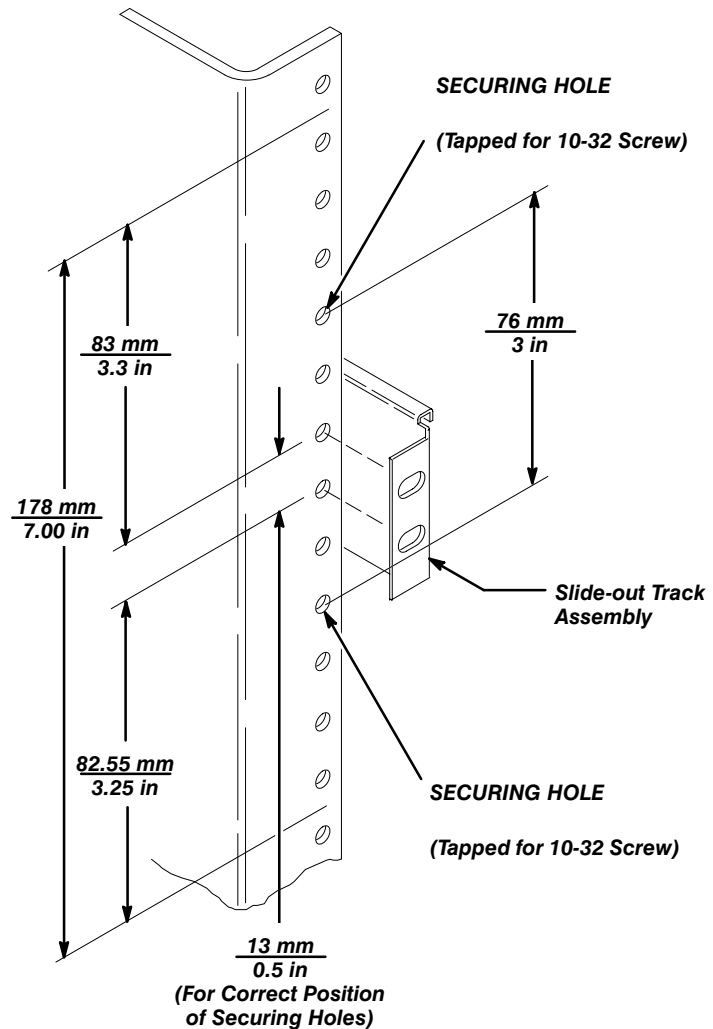

Figure 18: Locating Mounting Holes for the Stationary Sections
2. Select appropriate rail mounting holes on the equipment rack cabinet, verifying the 7-inch (178 mm) vertical clearance requirements as shown in Figure 18.